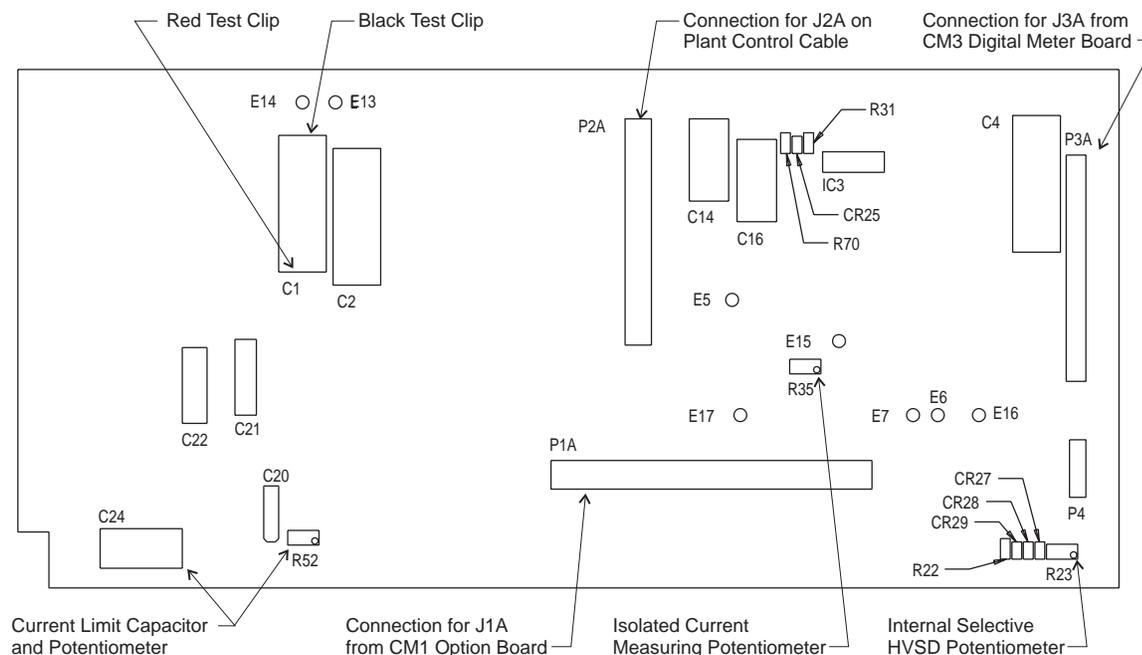

Figure 6-3: CM2 Control Board Showing Test Clip Connections and Other Component Detail
2. Strap a short across capacitor **C24** on **CM2**. See Figure 6-3.